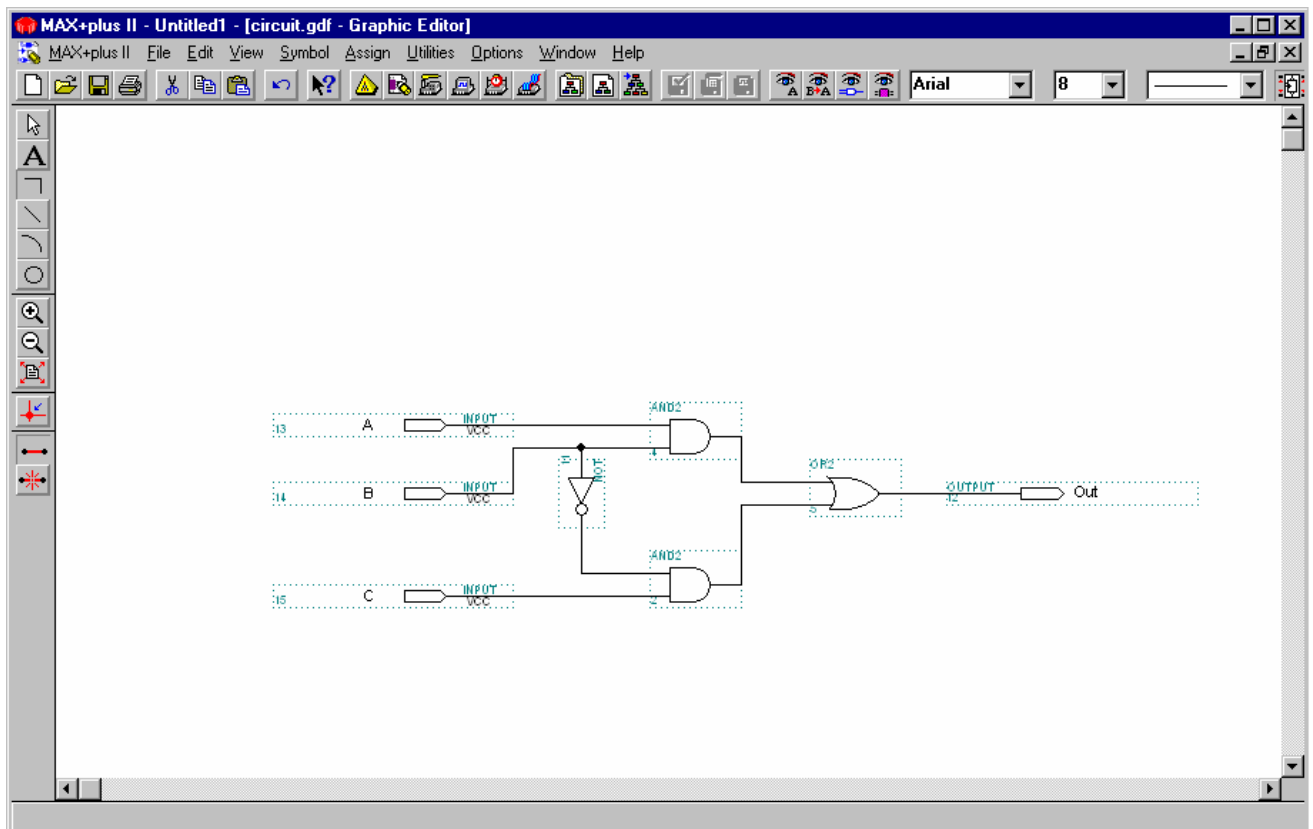

Figure 5
15. The last step is to connect the input of the **not** gate to the wire between input “B” and the top **and** gate. Simply draw a wire from the **not** gate to the wire, and observe that a connection dot appears in the joining of the two wires. This is the default when connecting the end of a wire to the middle of another wire. Now choose the **Select Tool** and click near the connection dot, and click once or twice on the **Connection Dot Tool** (third from the bottom) on the left toolbar. Observe that this toggles the dot on or off. In this way, you can make sure there is a connection (say between two wires that cross) or not. The final circuit diagram is shown in Figure 5.